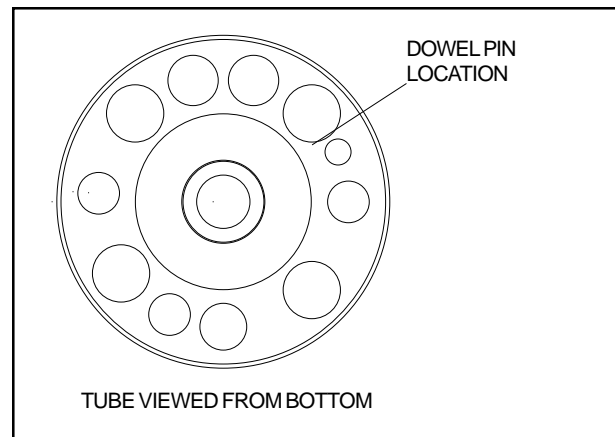

Figure 2.
3. Apply grease and install a new o-ring (30) onto the cylinder.
4. Place the cylinder (29) into a vice with soft jaws. Coat the cylinder bore and piston (31) with clean hydraulic fluid. Insert the piston into the cylinder.
5. Install the dowel pin (33) into the tube (32). See figure 2.